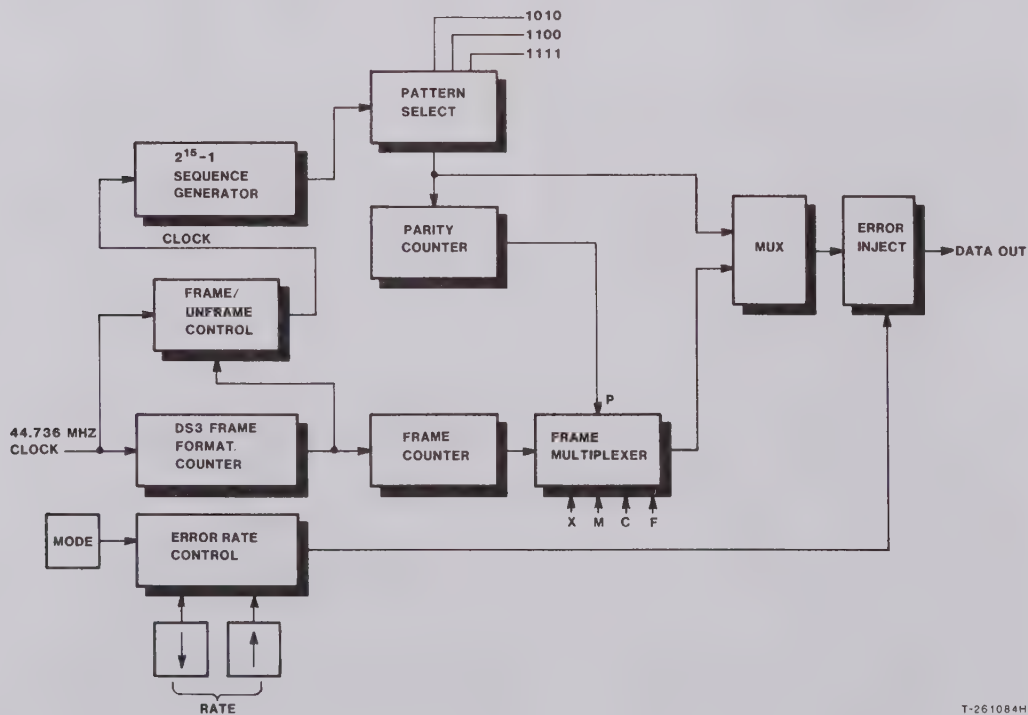

Fig. 8 - Transmit Generator Board Functional Block Diagram
5.09 The Transmit Generator board (see Fig. 8) generates the DS3 master-frame data format and the $2^{15}-1$ (32,767) bit pseudorandom sequence for bit-error measurements. The board